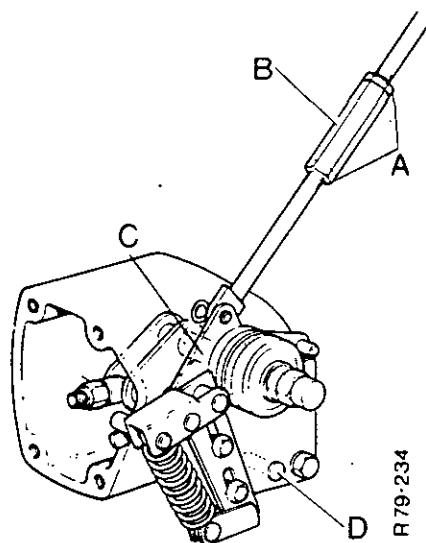

FIGURE 182. CONTROL ROD FOR THE QUADRANT LEVER SETTING
2. Loosen the locknuts 'A' on the operating rod for the quadrant lever (see Figure 182).